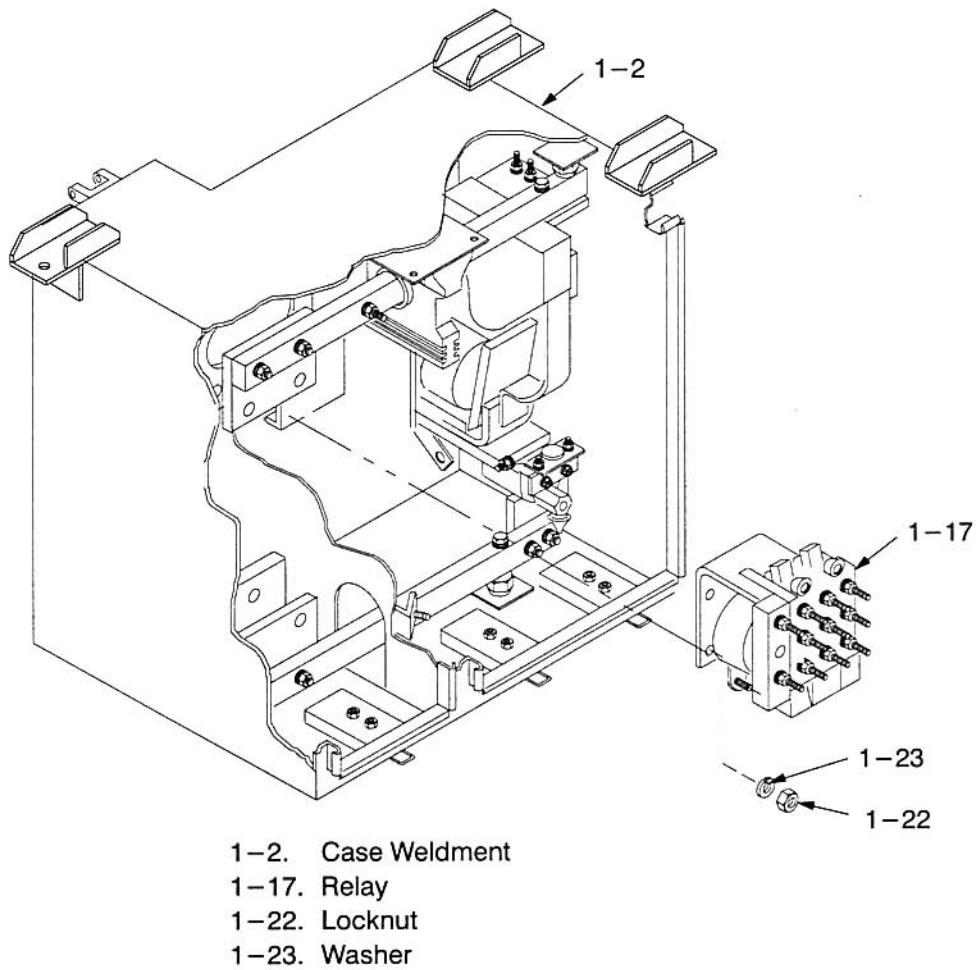

Figure 7–154 Remove/Install Relay (LBRR), 17LV66CY53
- b. Remove/install hardware (1–22, 1–23, Figure 7–154) which secures relay (1–17) to case weldment (1–2). Torque hardware to 74–83 in. lbs.